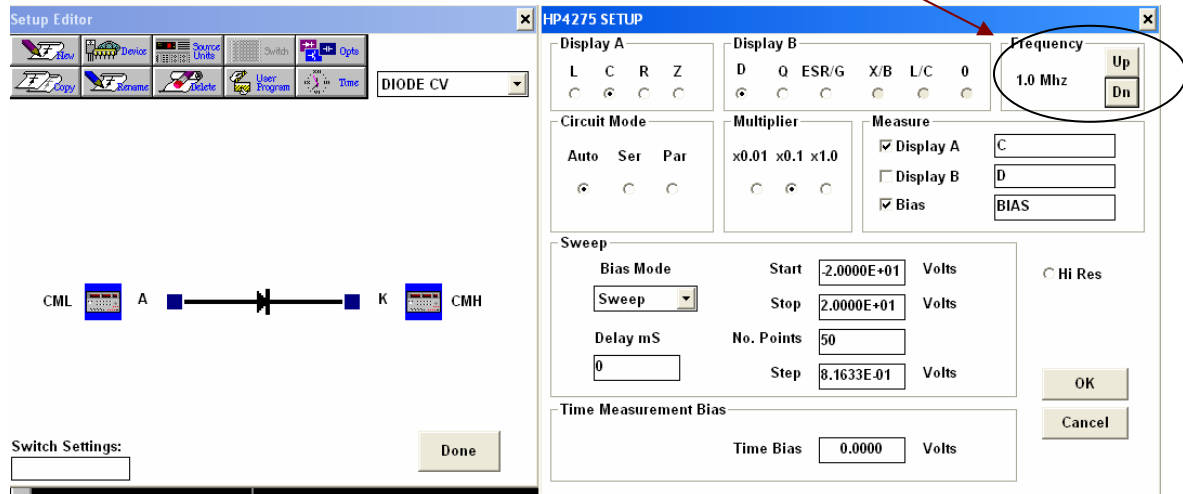

Figure 50: Diode CV set up editor
4. To see the arrangement of the probe connections, go to set up editor in the menu bar. Click Up or Dn to select 1MHz for high frequency. Set up editor should look like figure 50.